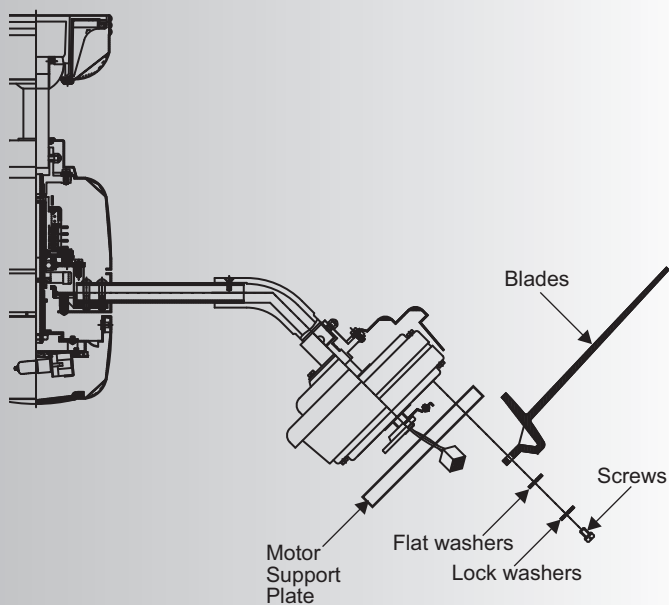

Fig. 19
CAUTION: Motor is shipped with motor support plate to prevent movement during transportation. Remove the motor support plate from fan motor assembly and discard prior to attaching blade arms. (Fig. 19)
Step 1. Attach a blade to the fan motor using the flat washers, lock washers and screws provided. (Fig.19)
Step 2. Tighten each mounting screw and then repeat this procedure for each blade. (Fig.19)
13. INSTALLING THE MOUNTING PLATE (B)